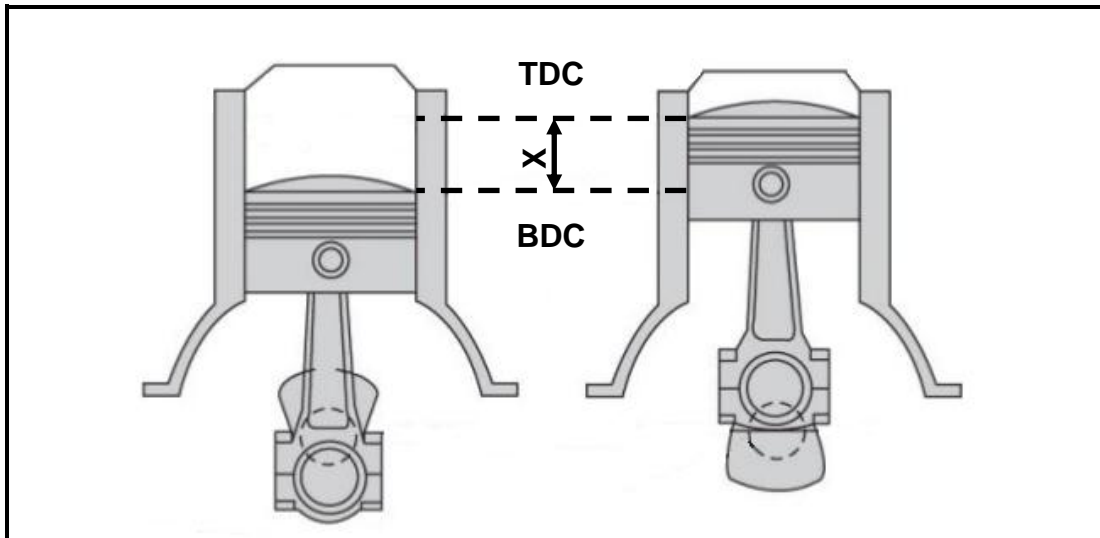

FIGURE 4.6
- D Fit a crankshaft with a shorter stroke. (1)
4.6 What does the symbol X in FIGURE 4.6 indicate?